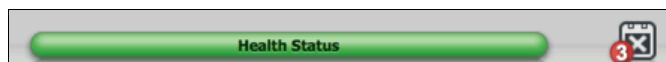

Figure 3 Determining the system status in the web-based GUI
1. Access the GUI and notice the **Health Status** bar and **Status Alerts** icon at the bottom of the window, as shown in Figure 3.